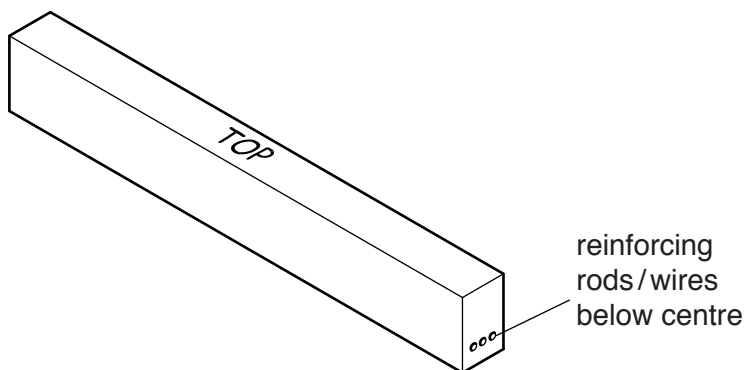

Fig. 5
- 7 Fig. 5 shows a reinforced concrete beam. Use notes and sketches to explain why the reinforcing rods are positioned as shown.